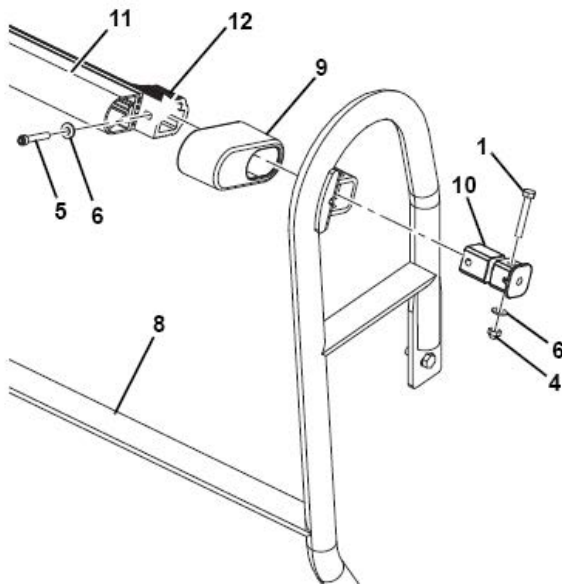

Figure 4-27.
4. Position SkyGuard switch assembly with sensor cover onto the SkyGuard Support Bracket (8) as shown in Figure 4-27.
5. Insert a Shear Block Support (10) through shear block housing on the SkyGuard support bracket and into the platform sensor mount. See Figure 4-27.
6. Secure the shear block on welded mount of SkyGuard support bracket using Bolt (1), relevant Washer (6) and Acorn Nut (4) as shown in Figure 4-27.
7. Secure the SkyGuard switch assembly using Bolt (5) and relevant Washer (6) on platform sensor mount. See Figure 4-27.
WHEN THE SKYGUARD IS PUSHED WITH EXCESSIVE FORCE THE SENSOR SUPPORTS (ITEM 10 - FIGURE 4-27.) WILL BREAK. REPLACE WITH NEW SENSOR SUPPORTS BEFORE CONTINUING OPERATION OF THE MACHINE.